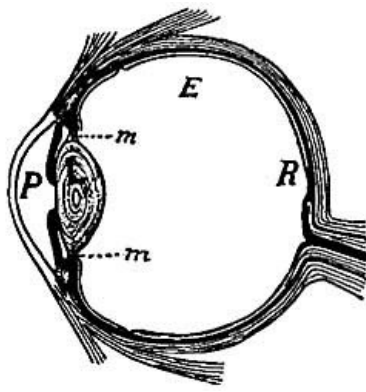

FIG. 78.—The eye.
**116. The Human Eye.** In Section 114, we obtained on a movable screen, by means of a simple lens, an image of a candle. The human eye possesses a most wonderful lens and screen (Fig. 78); the lens is called the crystalline lens, and the screen is called the retina. Rays of light pass from the object through the pupil  $P$ , go through the crystalline lens  $L$ , where they are refracted, and then pass onward to the retina  $R$ , where they form a distinct image of the object.